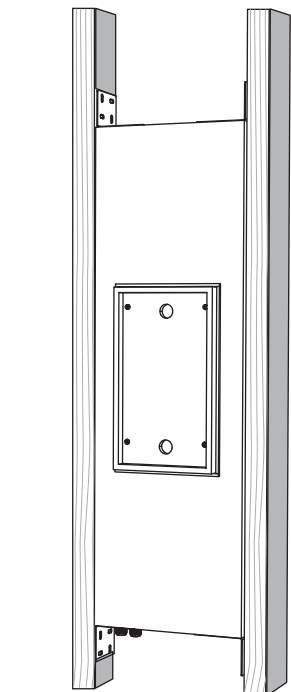

Fig. 2 Install the BACK CAN onto the Brackets
4. With the help of an assistant, carefully lift the back can between the brackets (Fig. 2), with the cable entry at the bottom.